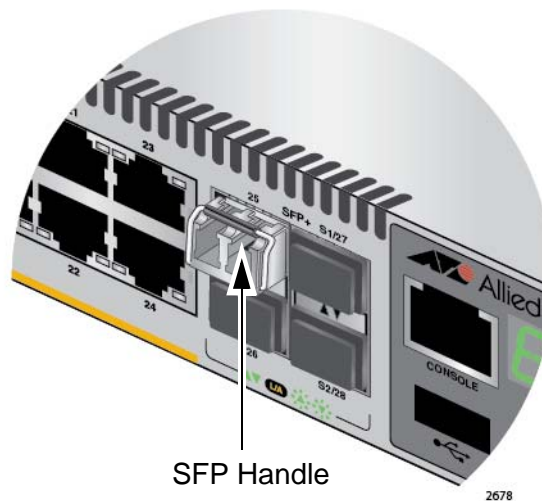

Figure 75. Positioning the SFP or SFP+ Handle in the Upright Position
- Verify the position of the handle on the SFP transceiver. If the transceiver is in a top slot, the handle should be in the upright position, as shown in Figure 75 on page 126. If the transceiver is in a bottom slot, the handle should be in the down position.